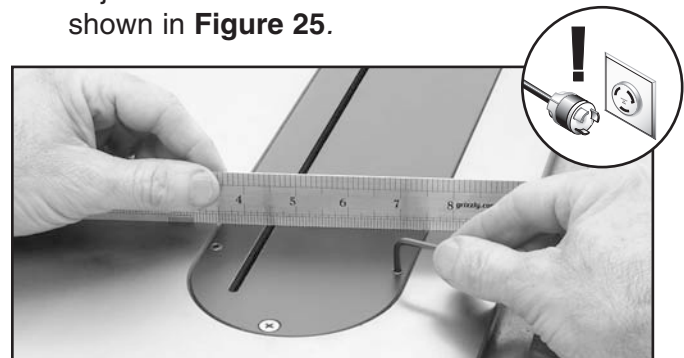

Figure 25. Adjusting the table insert.
4. Use a 3mm hex wrench and straightedge to adjust the table insert flush with the table as shown in **Figure 25**.